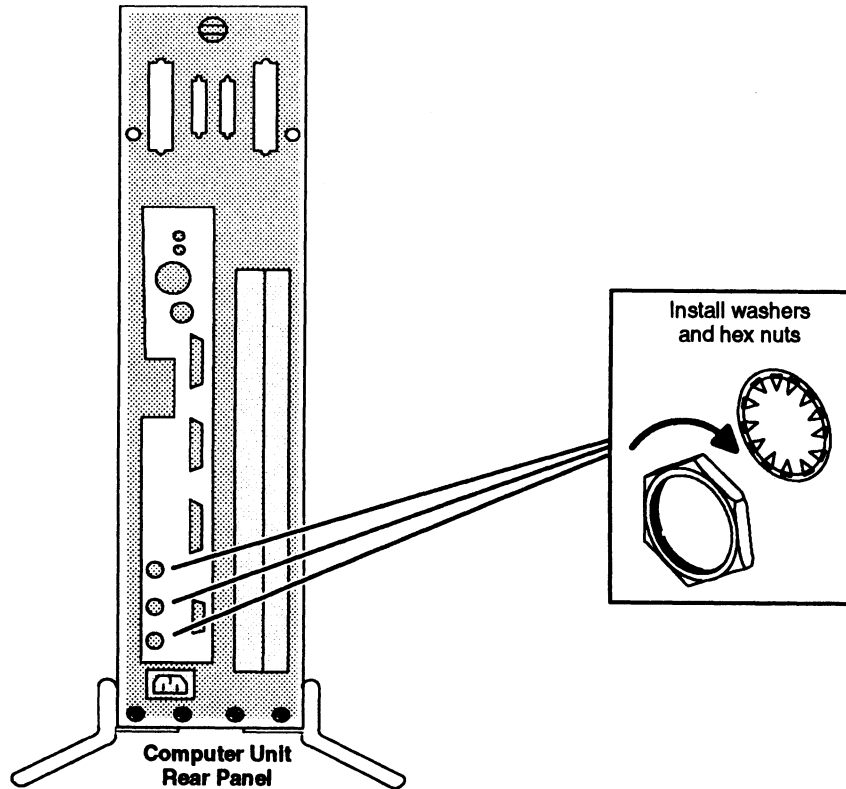

Figure 8–14 Securing BNC Connectors to the Computer Bulkhead
1. If you are installing a graphics controller board, install the hexagonal retaining nuts that secure the monitor connectors to the computer unit bulkhead, as shown in Figure 8–14. Use an adjustable wrench to secure the nuts to the bulkhead.